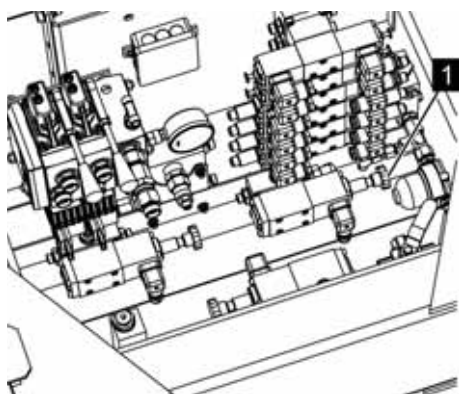

Fig. 113: Shuttle valve
4. ➤ For outrigger operation, lock the shuttle valve (Fig. 113/1).